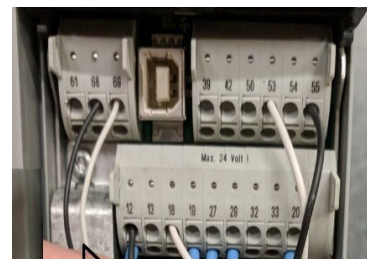

Fig 5.4.9- sensor wiring
- As shown in below picture (VFD 1), plug in input from your sensor to Analog 53 or Analog 54. See **Figure 5.4.9**.